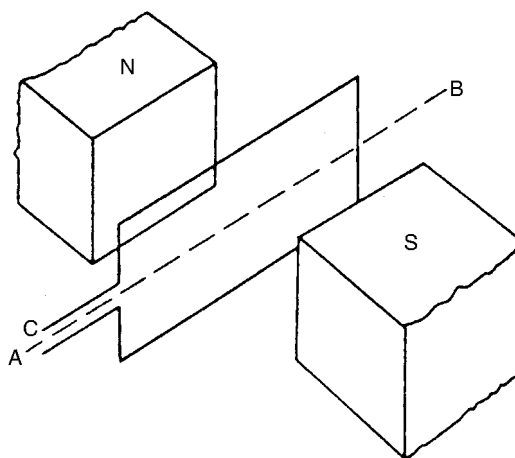

Figure 8.21
- 5 Figure 8.21 shows a rectangular coil of wire placed in a magnetic field and free to rotate about axis AB. If the current flows into the coil at C, the coil will: